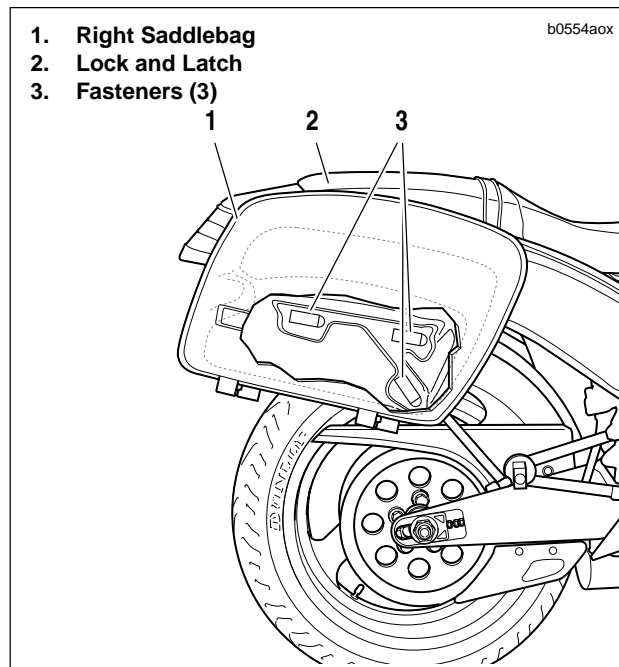

Figure 2-118. Saddlebags
See Figure 2-118. Each saddlebag features a barrel-style lock and a removable saddlebag liner.
1. See Figure 2-118. Place ignition key in saddlebag lock (2). Turn key 1/4 turn.
See Figure 2-118. Three fasteners (3) attach each saddlebag to the support brackets.